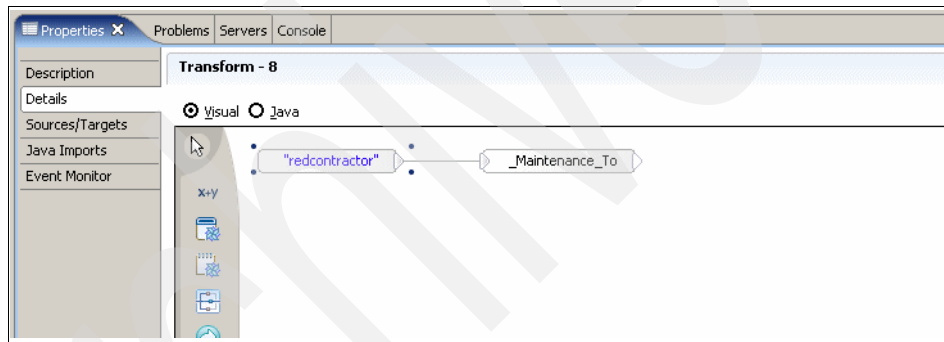

Figure 2-35 Custom assign
26. Add Custom Assign to the To variable of \_Maintenance BO, and in the Visual view, assign redcontractor to To of \_Maintenance, as shown in Figure 2-35.